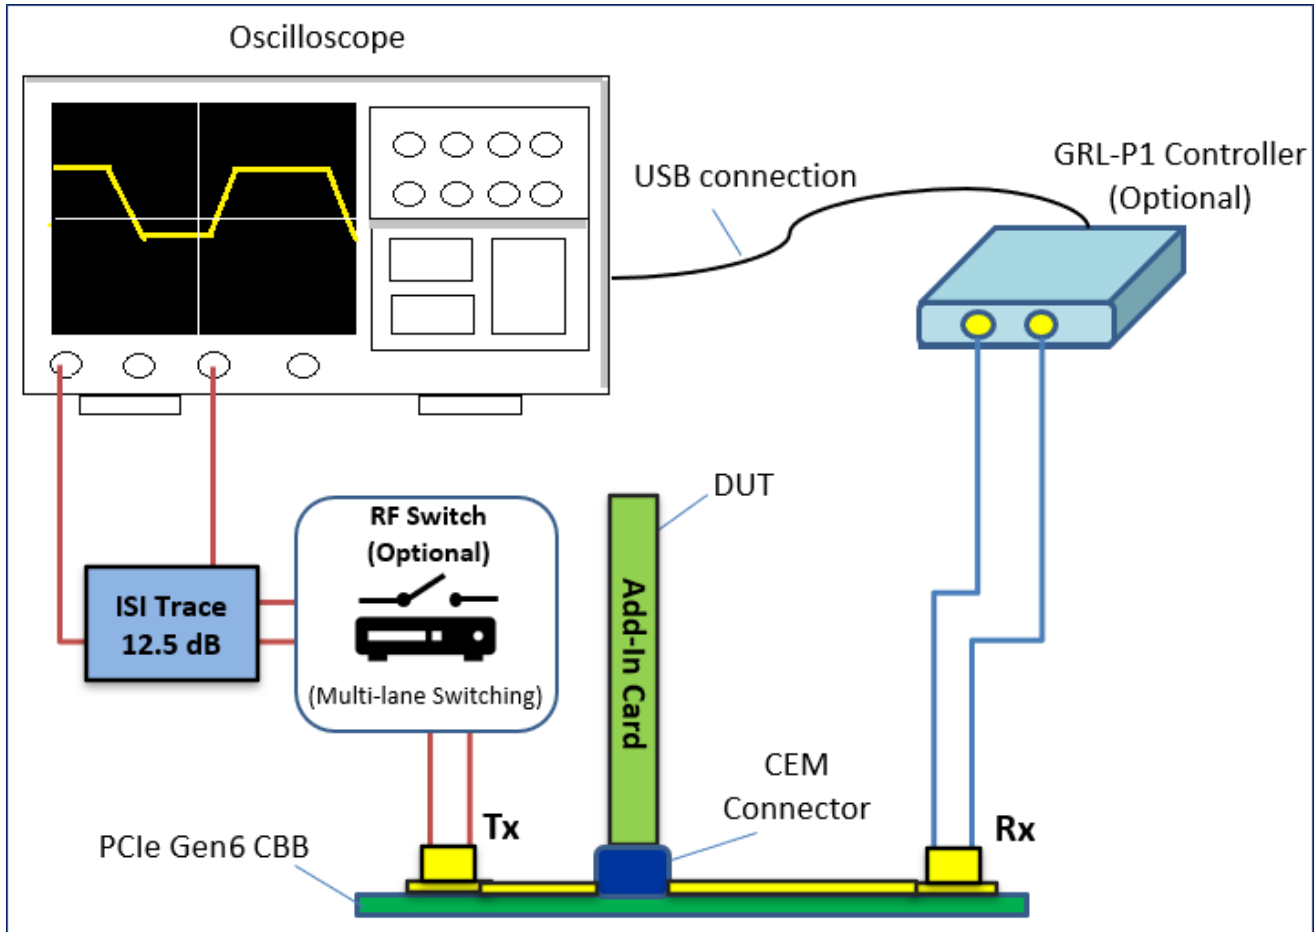

FIGURE 32. CONCEPTUAL PCIe GEN6 ADD-IN CARD TX TEST SETUP DIAGRAM USING GRL-P1 (WITH RF SWITCH AND ISI)
4. If using ISI, connect a 12.5 dB ISI in between the RF Switch outputs and Scope channels (Figure 32 below).